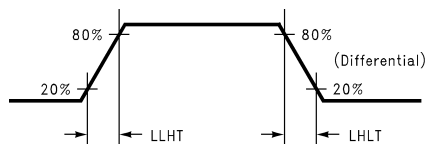

**Figure 4. DS90C185 (Transmitter) LVDS Transition Times**
| LLHT   | LVDS Low-to-High Transition Time (Figure 4 (1) ) |                            | 0.18           | 0.5            | ns    |
| LHLT   | LVDS High-to-Low Transition Time (Figure 4 (1) ) |                            | 0.18           | 0.5            | ns    |